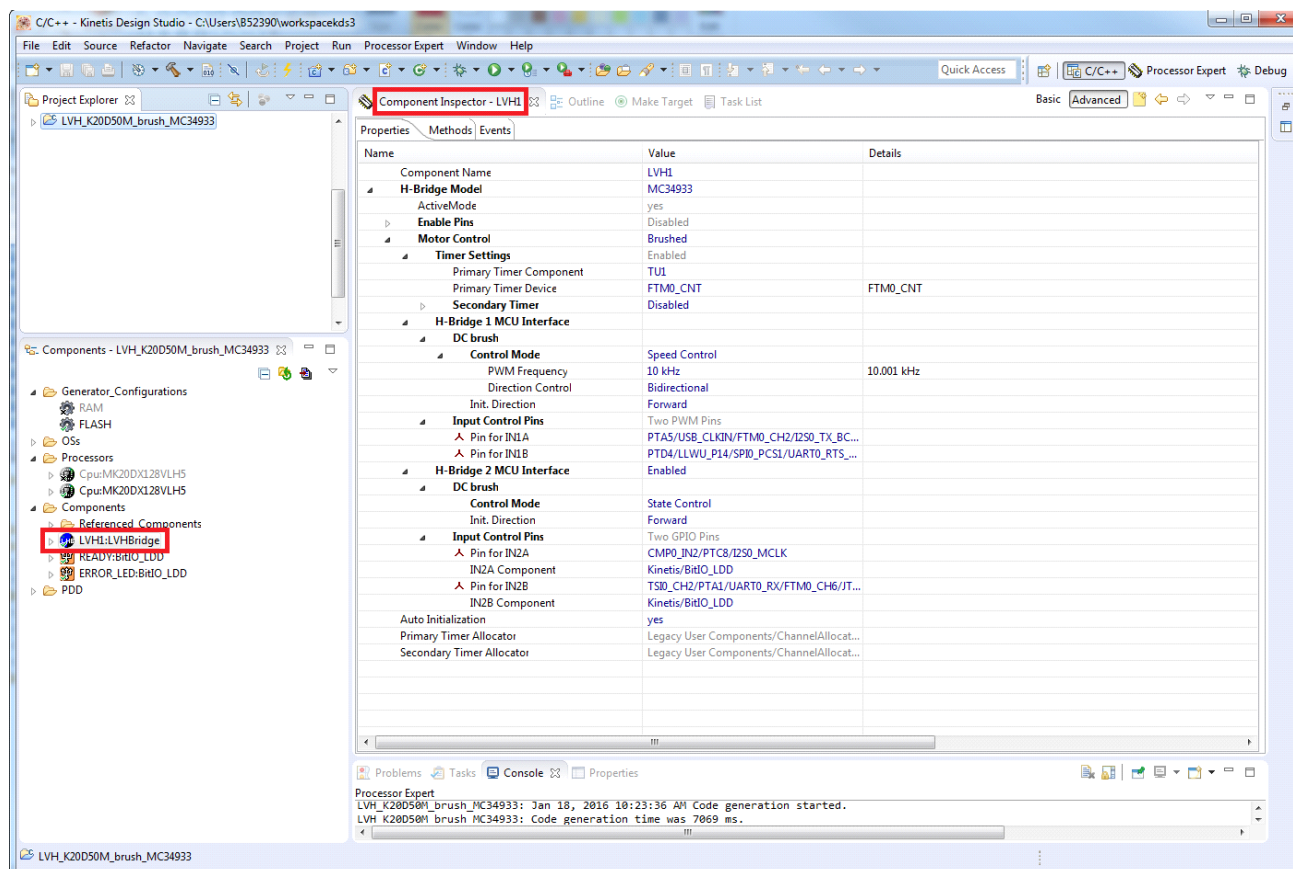

Figure 27. Component Inspector view
2. Click the LVHBridge component in the **Components** window to show the configuration in the **Component Inspector** view (see Figure 27).